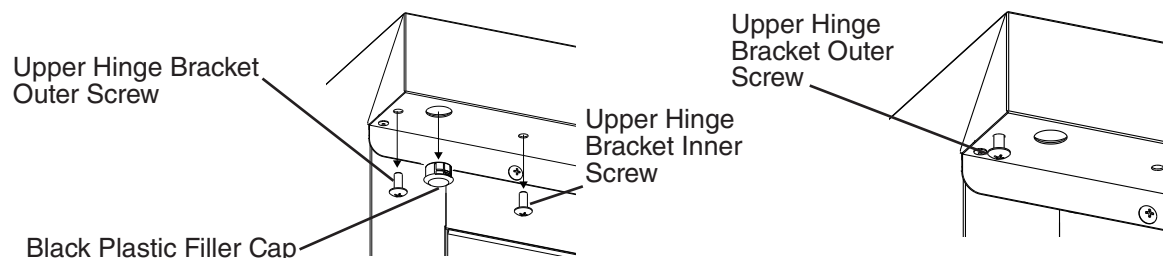

**Fig. 33**
- 15) Remove the upper hinge bracket screws from the new location and apply Loctite Threadlocker Blue 242 or 243 to the threads. Next, start the upper hinge bracket outer screw into the appliance. Rotate a few threads into the appliance; do not tighten the screw. See Fig. 33.